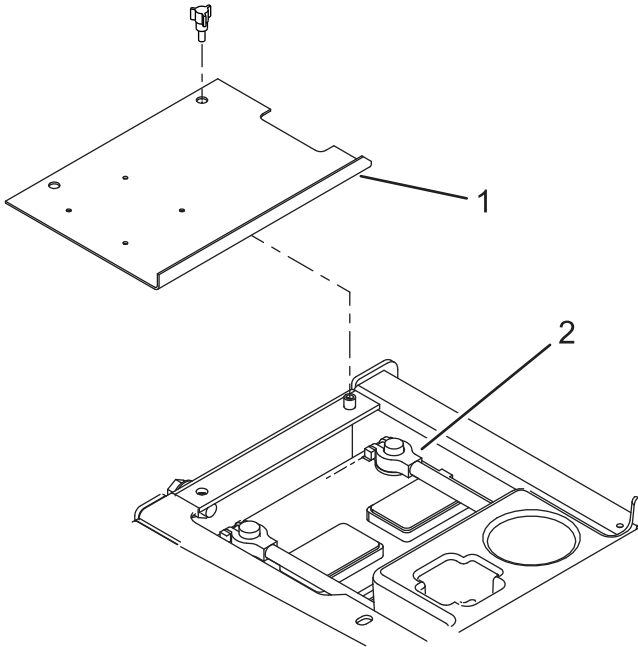

Figure 1
1. Remove the cover from the battery box (Figure 1).
2. Disconnect the negative (-) battery cable from the battery (Figure 1).